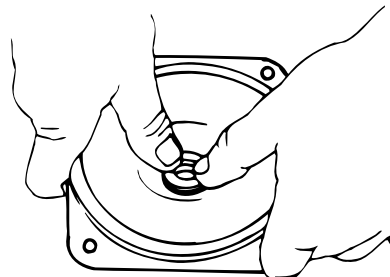

Figure 6 - Press in seal.
2. Apply liquid soap (one drop only) to the outside of the Buna-N gasket that houses the ceramic seal seat. With thumb pressure, press the ceramic seat, polished face up, squarely into the seal cavity (see Figure 6).